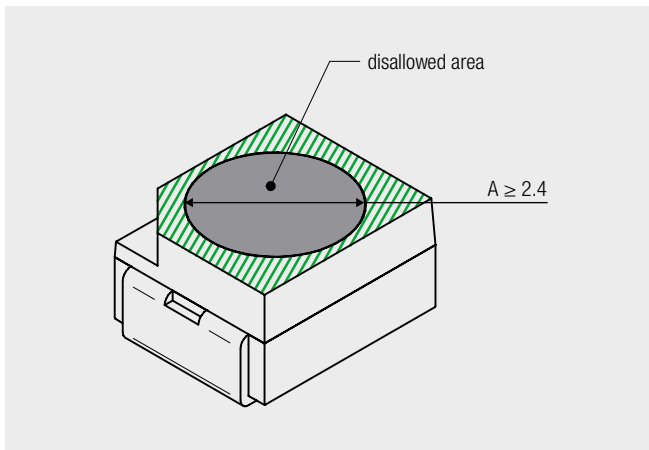
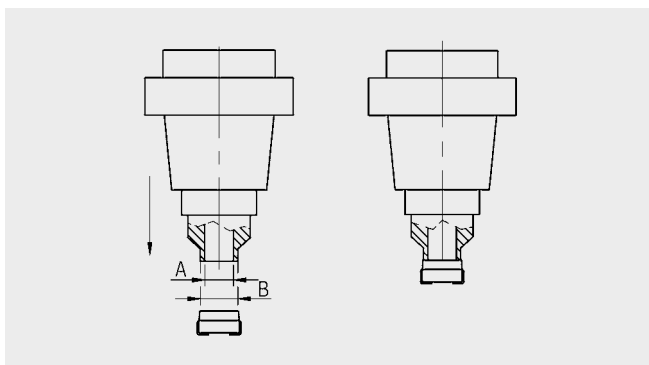

Figure 1: Allowed and disallowed area of LED
Figure 2: Recommended nozzle diameter
During the automatic pick and place process, the influence of mechanical stress on the surface must be minimized as much as possible. LEDs with a silicone resin provide many advantages. Compared to other reflector areas of Surface Mount LEDs, silicone is generally softer. Due to this fact, the handling area of the nozzle should only contact the Plastic Leaded Chip Carrier (PLCC) surface directly and is not allowed to touch the silicone encapsulation of the component (see Figure 1, grey is disallowed area). Therefore the inner diameter of the nozzle (A) should be bigger or equal than the disallowed area (see Figure 2, nozzle diameters). It is recommended to use a nozzle for PLCC LEDs in size 3528 with an inner diameter of $A \geq 2.4$ mm. Affected match codes are WL-SMTW, WL-SBTW and WL-SFTW. For ceramic components in size 3535 it is recommended to use a nozzle with an inner diameter of $A \geq 3.2$ mm. There are no restrictions in regards of the shape of the nozzle, except that the mechanical pressure on the surface of the silicone must be avoided totally. In general, the nozzle must be larger than LEDs reflector. In cases of contact the LED might be damaged or in worst cases the LED will not light as usual and may affect reliability.